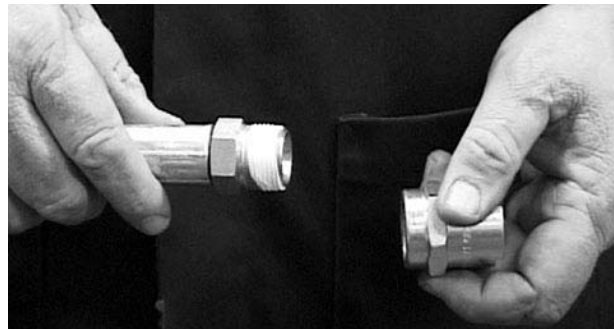

Figure 9-7. Apply Teflon Tape to Hose Fitting.
3. At one end of the Whip Hose, wrap the external threads of the hose fitting with teflon tape as shown in Figure 9-7.